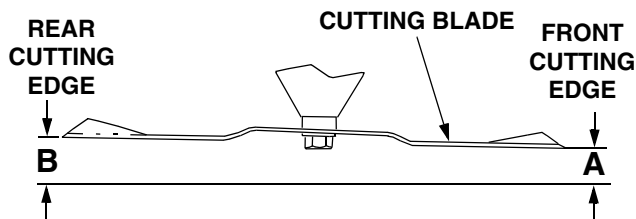

Figure 53
4. Refer to Figure 53. Measure and record the distance from the front cutting edge to the ground (measurement A), and from the rear cutting edge to the ground (measurement B), for each of the blades. The front edge of each blade (measurement A) should be lower than its back edge (measurement B) by 1/8 to 1/4 inch.